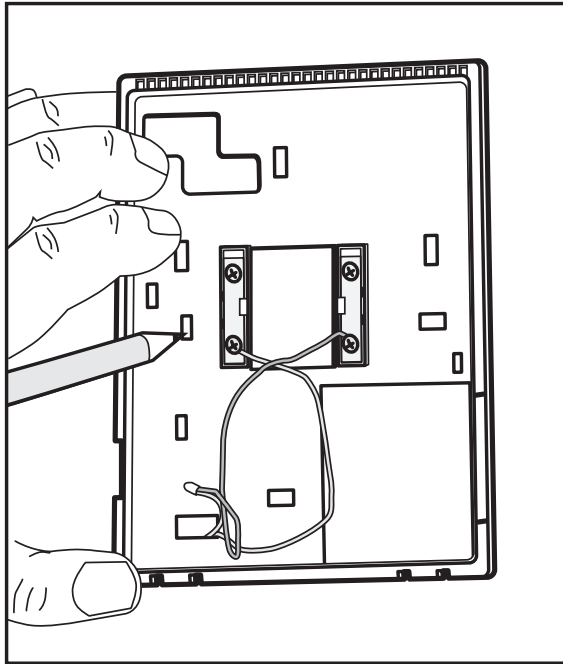

Fig. 3 — Mounting Plate Installation
4. Route wires through large hole in mounting base. Level mounting base against wall (for aesthetic purposes only — the display module does not need to be leveled for proper operation) and mark wall through 2 mounting holes. See Fig. 3.